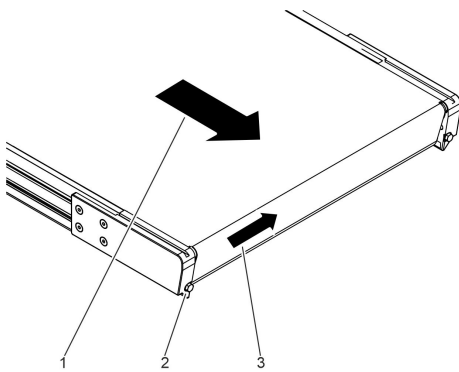

Fig. 79: Knife edge outlet
- ➔ Make corrections in small steps by turning the clamping screw (Fig. 79/2) clockwise by 1/8 to 1/4 turn. The conveying direction corresponds to the direction of the arrow (Fig. 79/3).
- ⇒ The conveyor belt reacts in the direction of the arrow (Fig. 79/3).